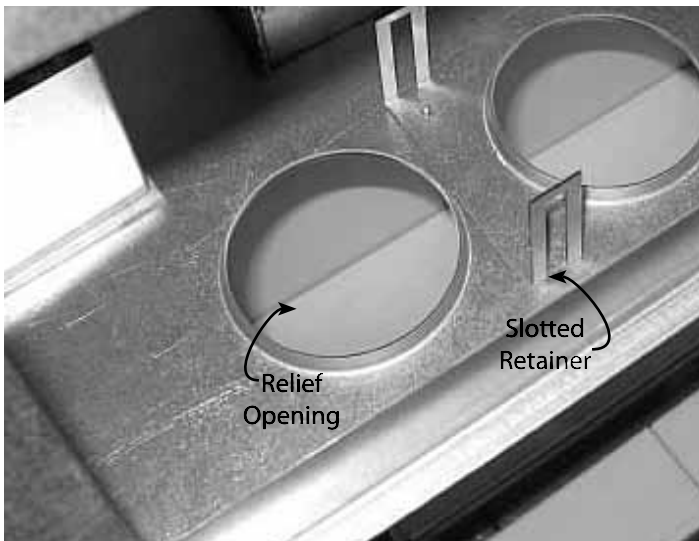

Figure 14 - Relief Openings and Slotted Retainers
- c. The four relief doors include line-up tabs that correspond to slotted retainers on the firebox. See *Figure 14*.